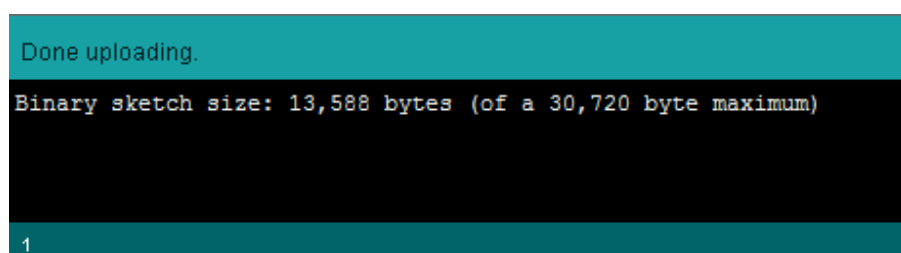

Figure 17.
11. If completely uploaded an example program (ReadWrite program) then information will be shown “Done uploading” and “Binary sketch size” as figure 17.